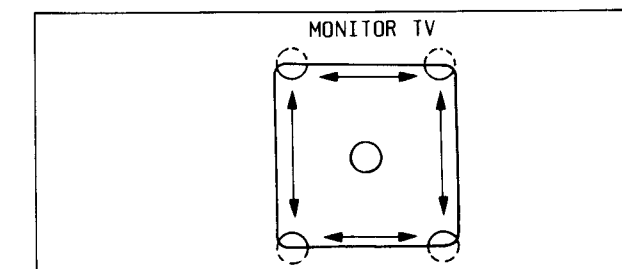

Fig. C7-2
- (2) Set the High Speed Shutter SW to "ON" position.
- (3) Connect a jumper wire between TP10 and TP11 to fully open the iris.
- (4) Adjust the Blooming Control (VR201) so that the monitored picture does not contain Blooming.
- (5) High Speed Shutter "ON" and "OFF" both confirm that the monitored picture does not contain the Blooming even if the camera is zoomed in as shown in Fig. C7-2.